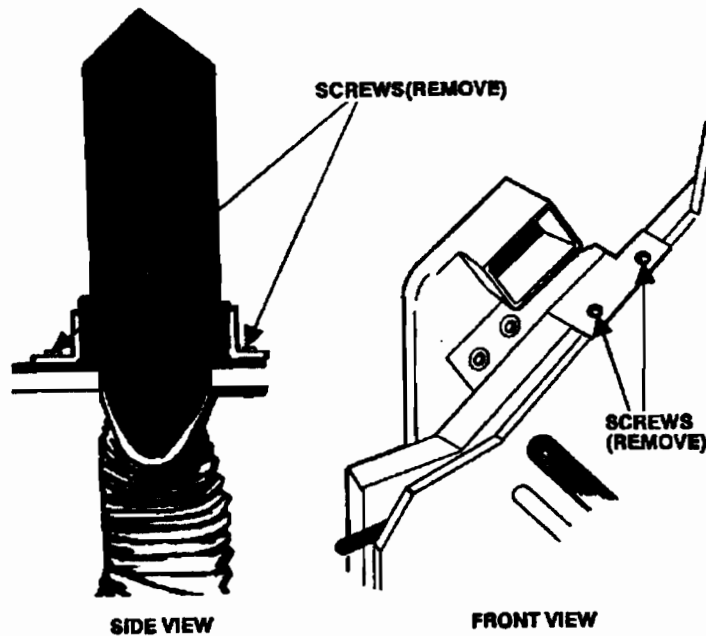

Figure 6. Removing Ventilation Duct
- b. Remove the screw holding each of the two lower duct brackets to the printer's frame (Figure 6).